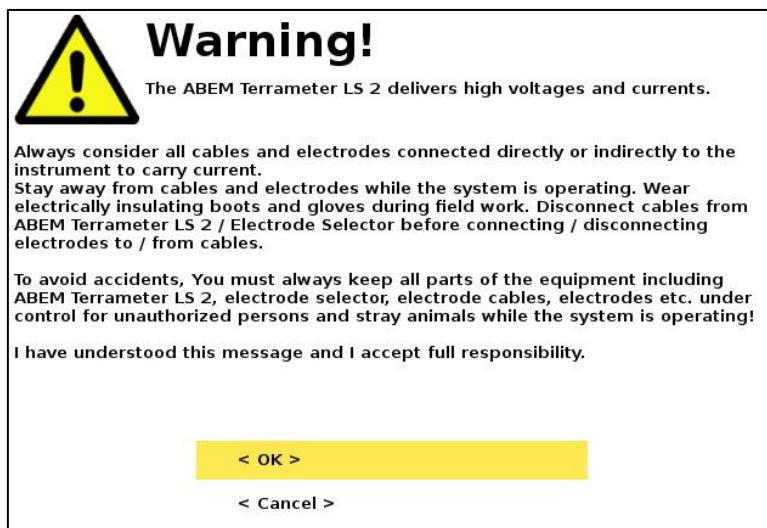

Figure 59 Electric shock warning dialog
If the measurement setup involves transmitting current, that is if the measurement mode includes resistivity or IP, a warning message is issued (Figure 59).
**Warning!** Read the warning text (Figure 59) carefully before accepting to start the measuring process, and carry out the data acquisition accordingly!